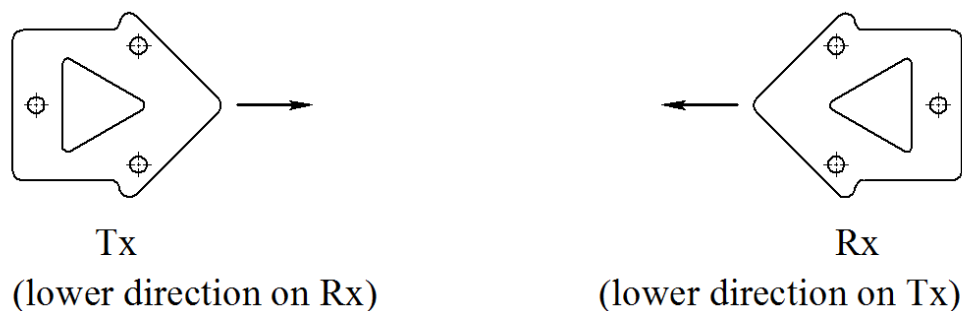

Fig.8.1
6.1.6. The anchor bolts installation is shown in fig.6.2. The anchor bolts are installed by concreting. An adjustment plate from the MK is applied to determine a necessary anchor bolts orientation for the sectors generated by the lower radiators and the beaming receivers (see fig.8.1), and to fix during the metal-reinforced and anchor bolts concreting. Before the units mounting it is necessary to remove the adjustment plate.
8.2.1. Mark the perimeter for the places where Rx and Tx will be mounted as well as communication lines and power supply lines are laid. During the layout it is necessary to indicate the direction of adjustment plates according to the lower receiver direction (transmitter) (see fig.8.1).